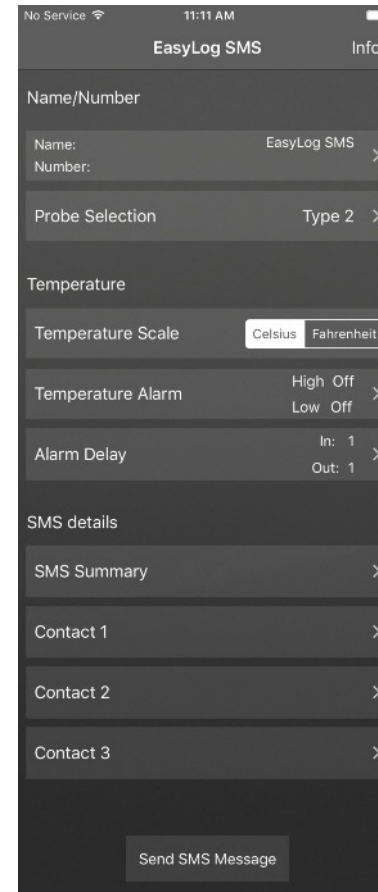

Fig. 1
2. Open the App (see Fig. 1). Full Setup – Configure the device by tapping the options in the list.
10. Press the “Send SMS Message” button to send the configuration message to the ELSMS device (See Fig. 1).